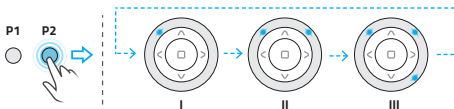

Fig. 10
2. Press the P2 function key located on the rear of the controller - Fig. 10.